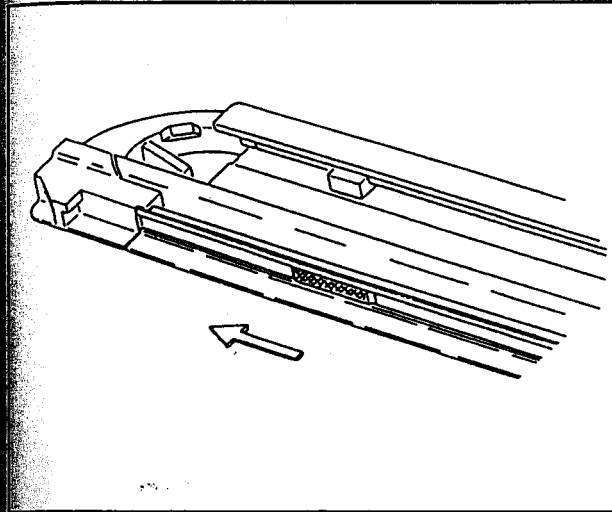

Fig. 18 - Sunshade Positioning.
2. Push sunshade retraction mechanism, on both sides, completely forwards with a small screwdriver (fig. 18).